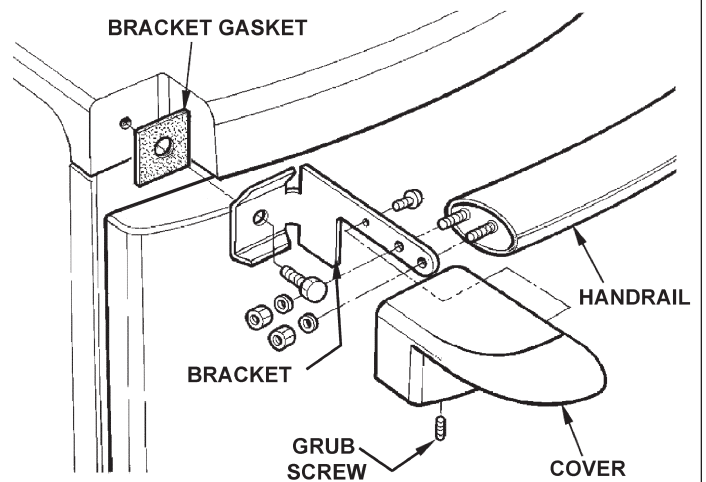

FIG. 15
5. Fit handrail assembly (See Fig. 15) as follows: